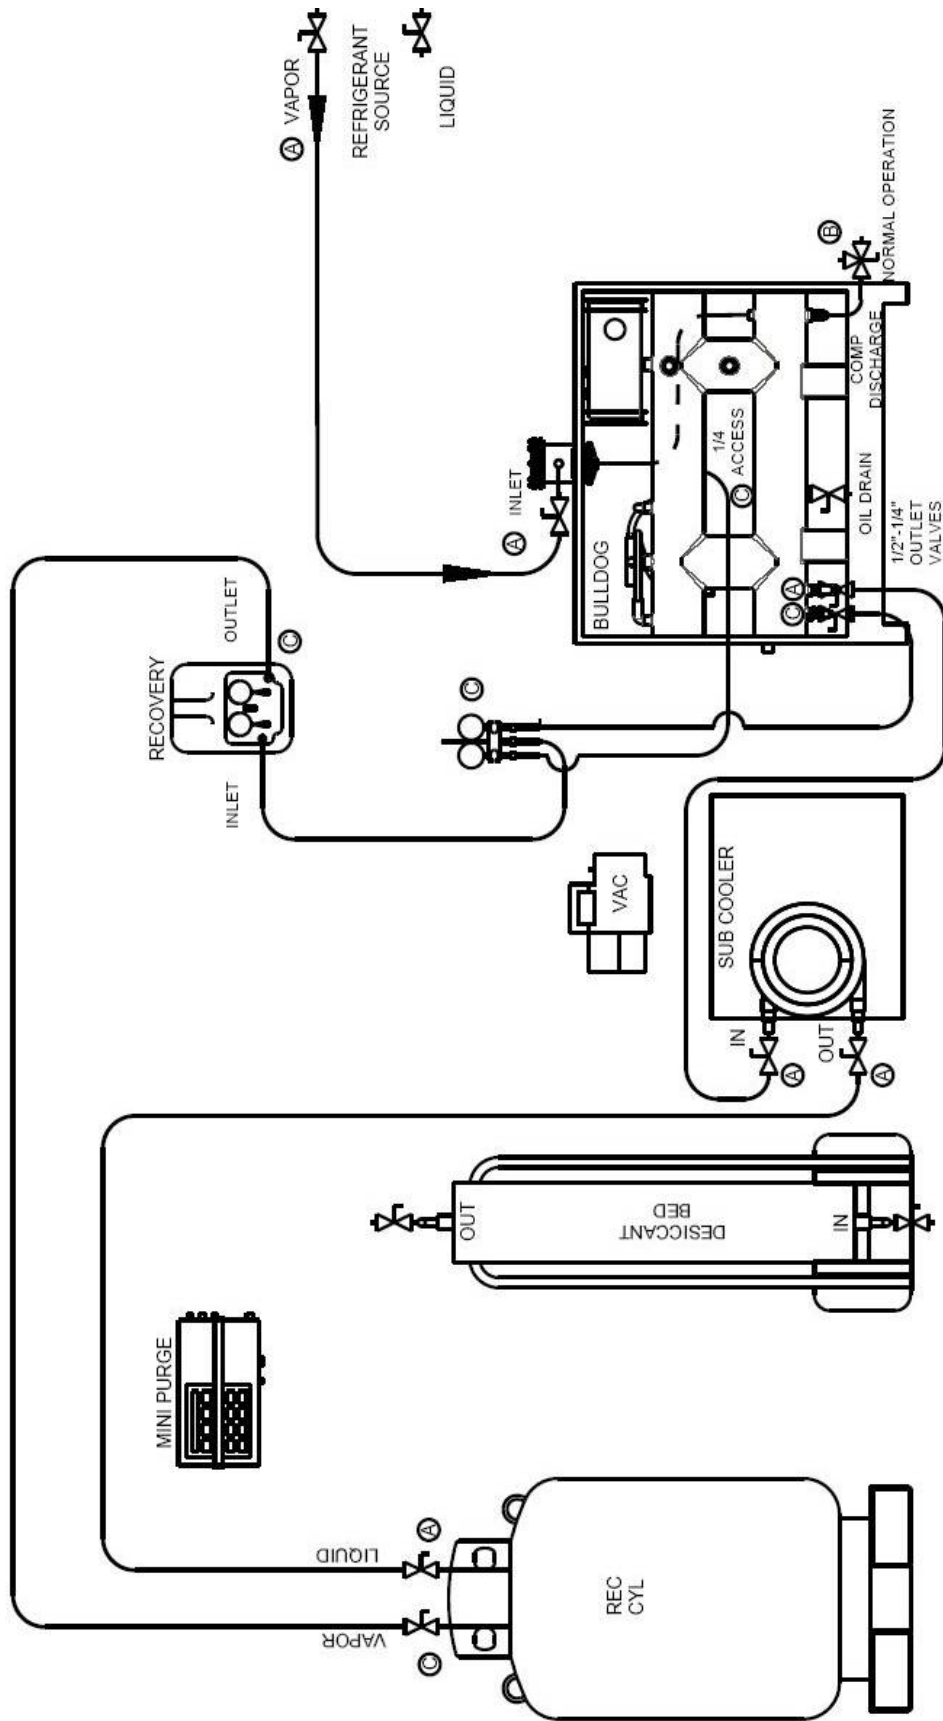

FIGURE 2: VAPOR RECOVERY
**WARNING:** Before attempting to operate this unit in vapor mode, make absolutely sure that the hoses on unit (Figure 2) (A) page 10 are hooked up correctly!
2. Connect hoses as shown in Figure 2(A). Turn 3-way valve to Normal Operation Figure 2(B). Open all Isolation Valves on hoses, Recovery Cylinder Bulldog Unit, Sub-Cooler and Refrigerant Source.